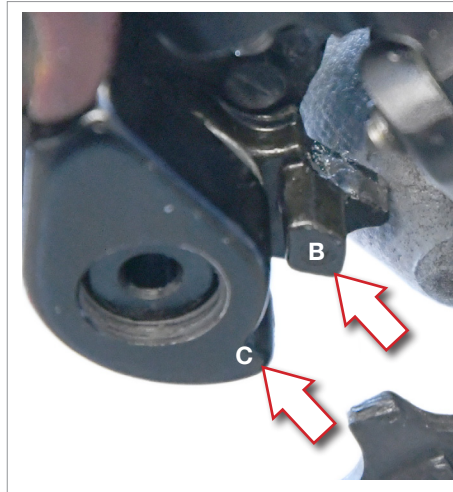
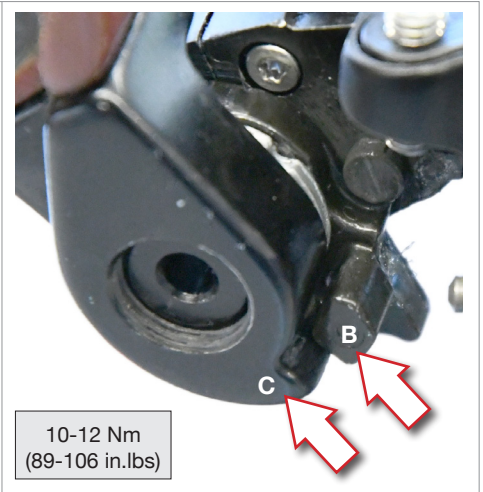

Fig.5
Fig.6
- During assembly, ensure that the rear derailleur tooth (B - **Fig.5**) is resting correctly on the tooth in the drop-out (C - **Fig. 6**).